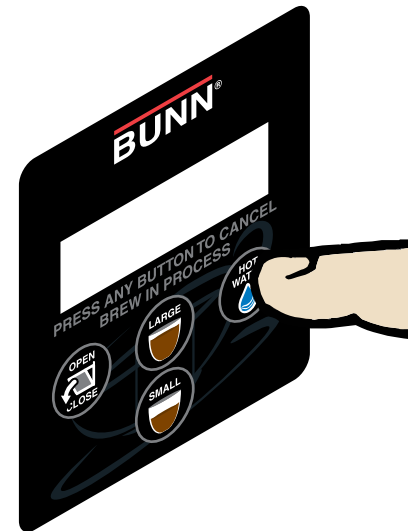

FIG 8-4
2. Press and hold the HOT WATER switch to fill. FIG 8-4 **NOTE:** Maximum of 10 oz.